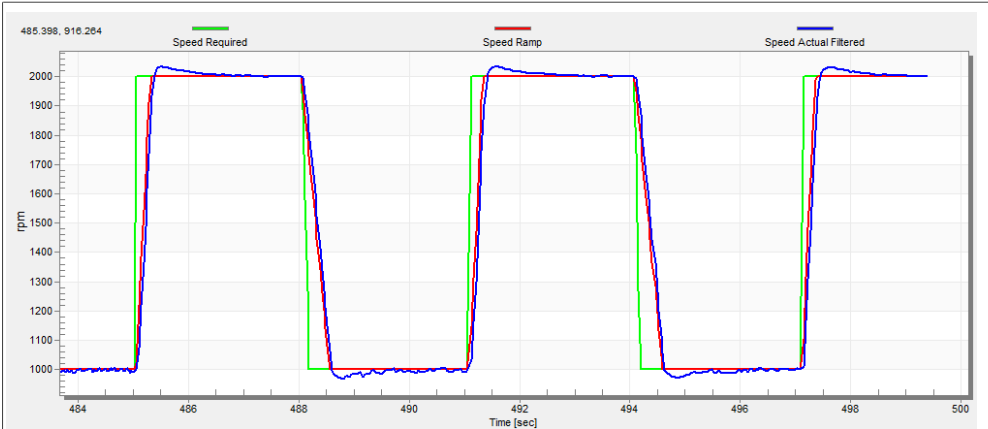

Figure 28. Speed controller response—speed loop response with a small overshoot
- The speed loop response has a small overshoot and the “Speed Actual Filtered” settling time is sufficient. Such response can be considered optimal (see Figure 28).